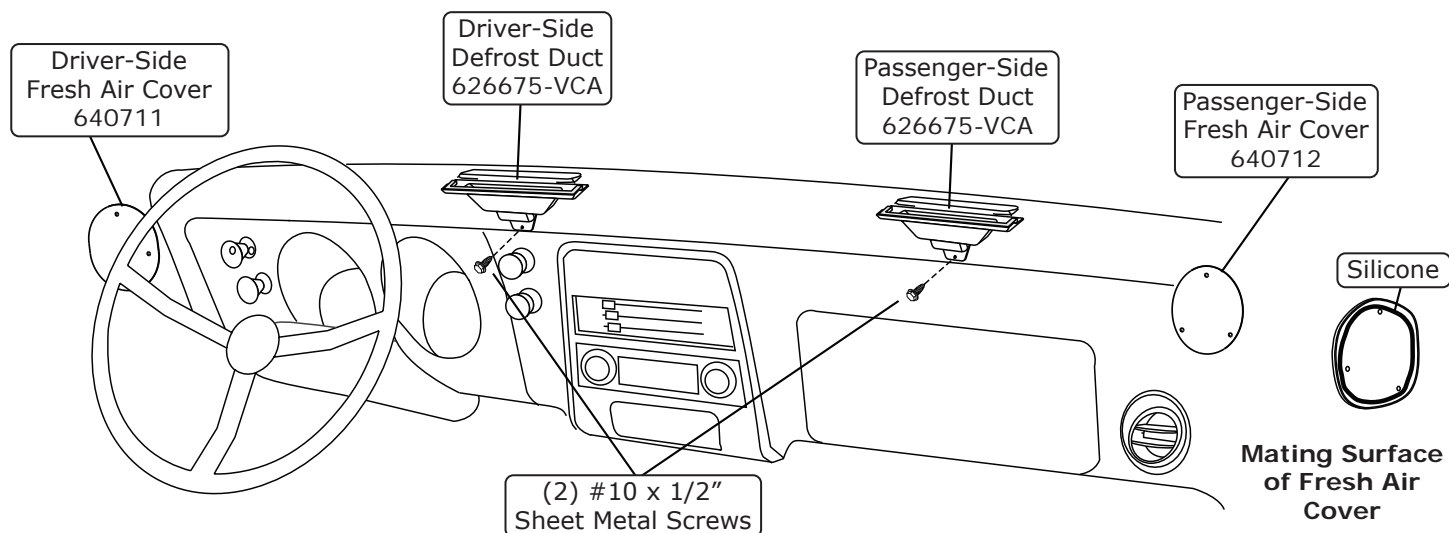

Figure 1
1. Install the defrost ducts under the dash (See Figure 1, below). Align each defrost duct with the defrost opening in the dash, and hold it in place. Using the bracket as a template, drill a 7/64" hole. Secure each defrost duct using a #10 x 1/2" sheet metal screw (See Figure 1, below).
2. If the vehicle is equipped with astro ventilation, apply a 1/4" bead of silicone to the mating surface, and install the driver- and passenger-side fresh air covers using the OEM hardware to secure them (See Figure 1, below).